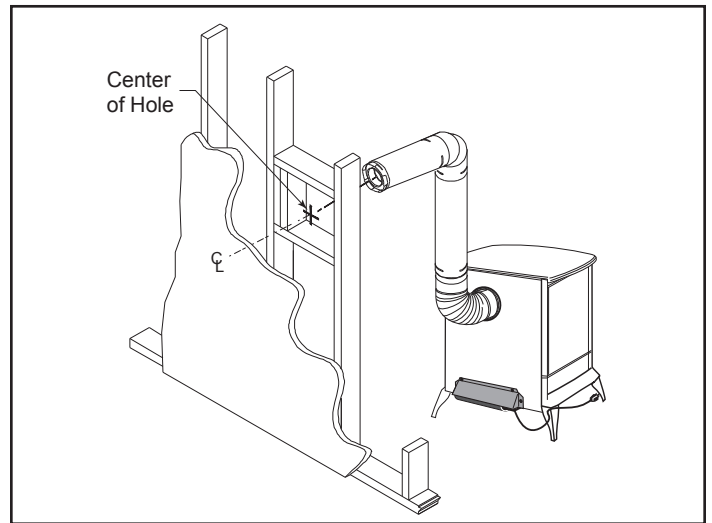

Figure 24
**Step 3** - With the appliance adapter and pipe section attached, slide the stove into its correct location. Mark the wall for a square hole that measures 10" x 10" (254 x 254 mm). The centerline of the pipe should line up with the center of the square hole, Figure 24. Cut and frame the square hole in the exterior wall where the vent will be terminated. If the wall being penetrated is constructed of noncombustible material only, i.e. masonry block, brick or concrete only, a hole with zero clearance is acceptable.